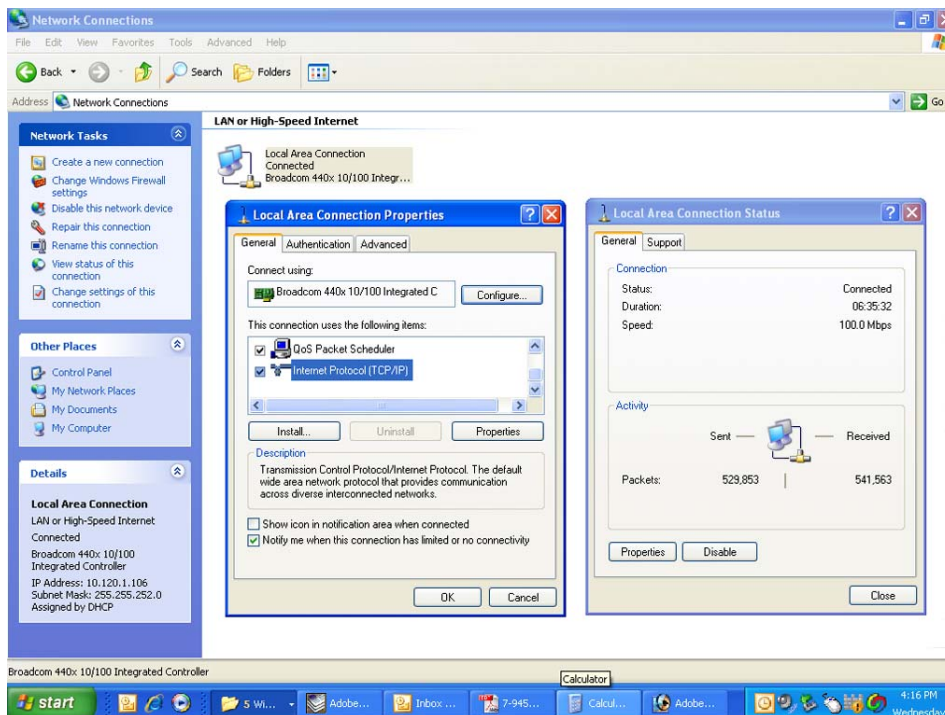

Figure B5: Make sure the “Internet Protocol (TCP/IP)” choice is highlighted. Then select “OK”.
- 6) The “Local Area Connection Properties” box will open. Use the arrow buttons to scroll down the list until the “Internet Protocol (TCP/IP)” choice is highlighted as shown in **Figure B5**. Click the “Properties” tab at the right-center of the box.